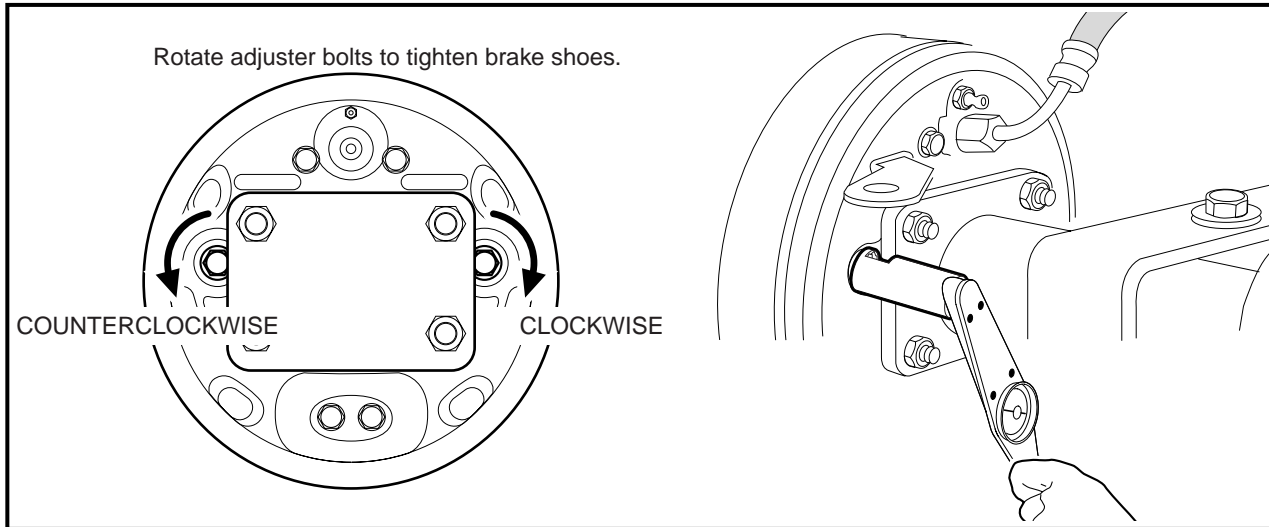

Figure 6-13 Tighten Brake Shoe Adjusters
19. With the brake drum properly seated and secured, gently adjust the clearance between the brake shoes and brake drum by turning each of the two adjusters on the brake cluster as shown (**Figure 6-13, Page 6-16**). Use a hydraulic brake adjuster (CCI 102169401) and torque wrench. **See following CAUTION.**
3. With the brake drum properly seated, gently adjust the clearance between the brake shoes and brake drum by turning each of the two adjusters on the brake cluster as shown (**Figure 6-13, Page 6-16**). Use a hydraulic brake adjuster (CCI 102169401) and torque wrench. **See following CAUTION.**